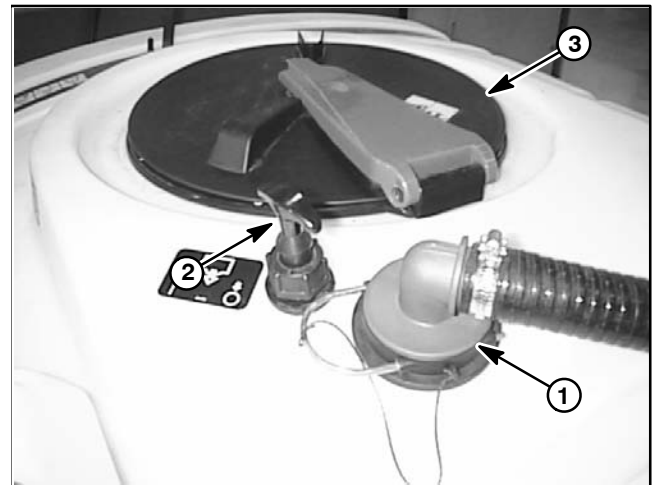

Figure 36
3. Raise tank lid and remove strainer basket to gain access to suction tube inside spray tank (Fig. 36).